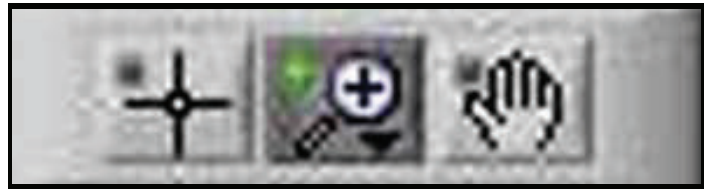

Figure 44: Graph tools
3. There is a series of Graph Tools available at the top left of the trend plot area (see Figure 44 below).